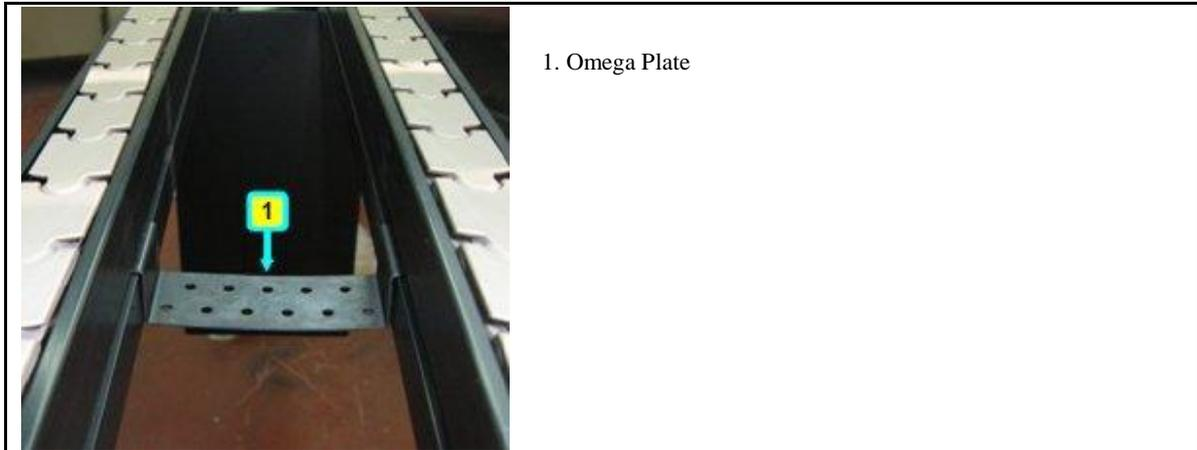

Figure 13: Placement of the Omega Plate in the Free Space between the Rails.
12. Insert the omega plates evenly in the free space between the conveyor rails in order to support the cables. (See Figure 13.)